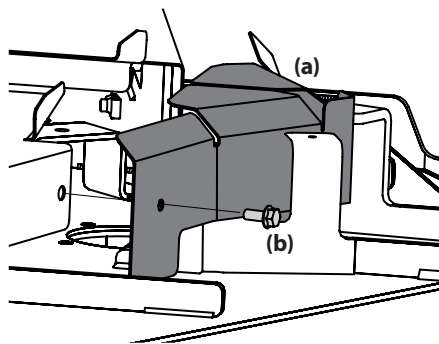

Figure 32
3. On models with full deck covers, the front deck cover (a) will need to be removed before removing the deck. To take off the front deck cover (a) remove the two hex screws (b, one on each side) that secure it to the main deck cover. See Figure 32.
13. On models with deck covers, re-install the front deck cover. See Figure 32 on page 23.